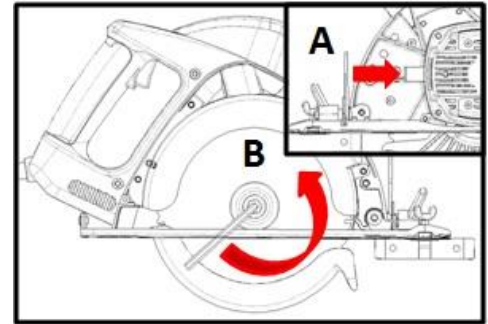

Fig.3
3. Hold down the shaft lock lever (A) to secure the motor shaft. Use the Allen wrench to loosen the shaft screw (B) (counter-clockwise) and remove the shaft screw and flange. Fig.3